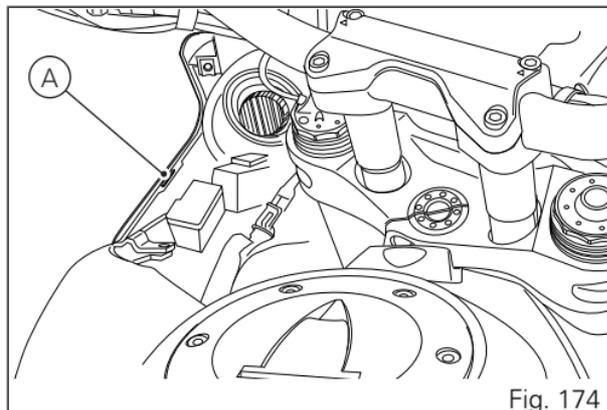

Fig. 174
Reconnect the connector (5) and refit the panels (4) that were removed being careful to insert the tabs (B) into the slots (A) (Fig. 174) made in the headlight fairing.